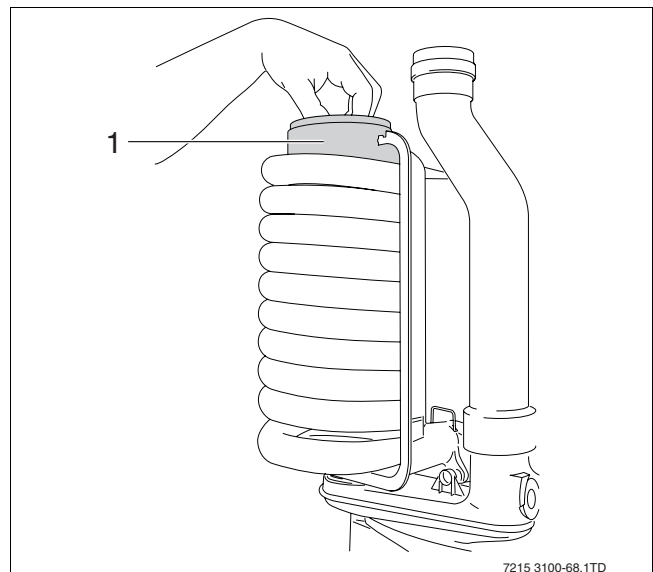

Fig. 70 Remove restrictor baffle
- Remove the restrictor baffle from the heat exchanger (→ fig. 70, item 1).